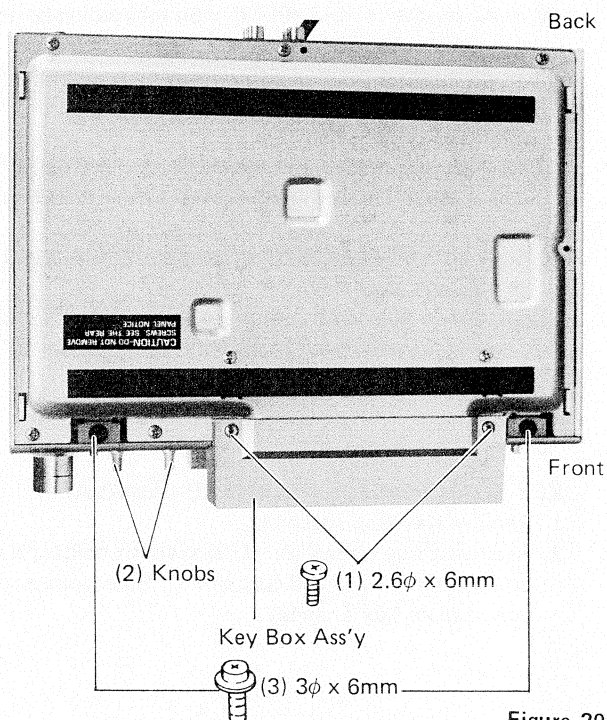

Figure 20
2. Remove two select knobs (2) as shown in Figure 20.
3. Remove two screws (3) ($3\phi \times 6\text{mm}$) holding bottom plate and panel from back side and two screws (4) ($3\phi \times 6\text{mm}$) holding jack plate and panel from back side as shown in Figure 20 and 21.